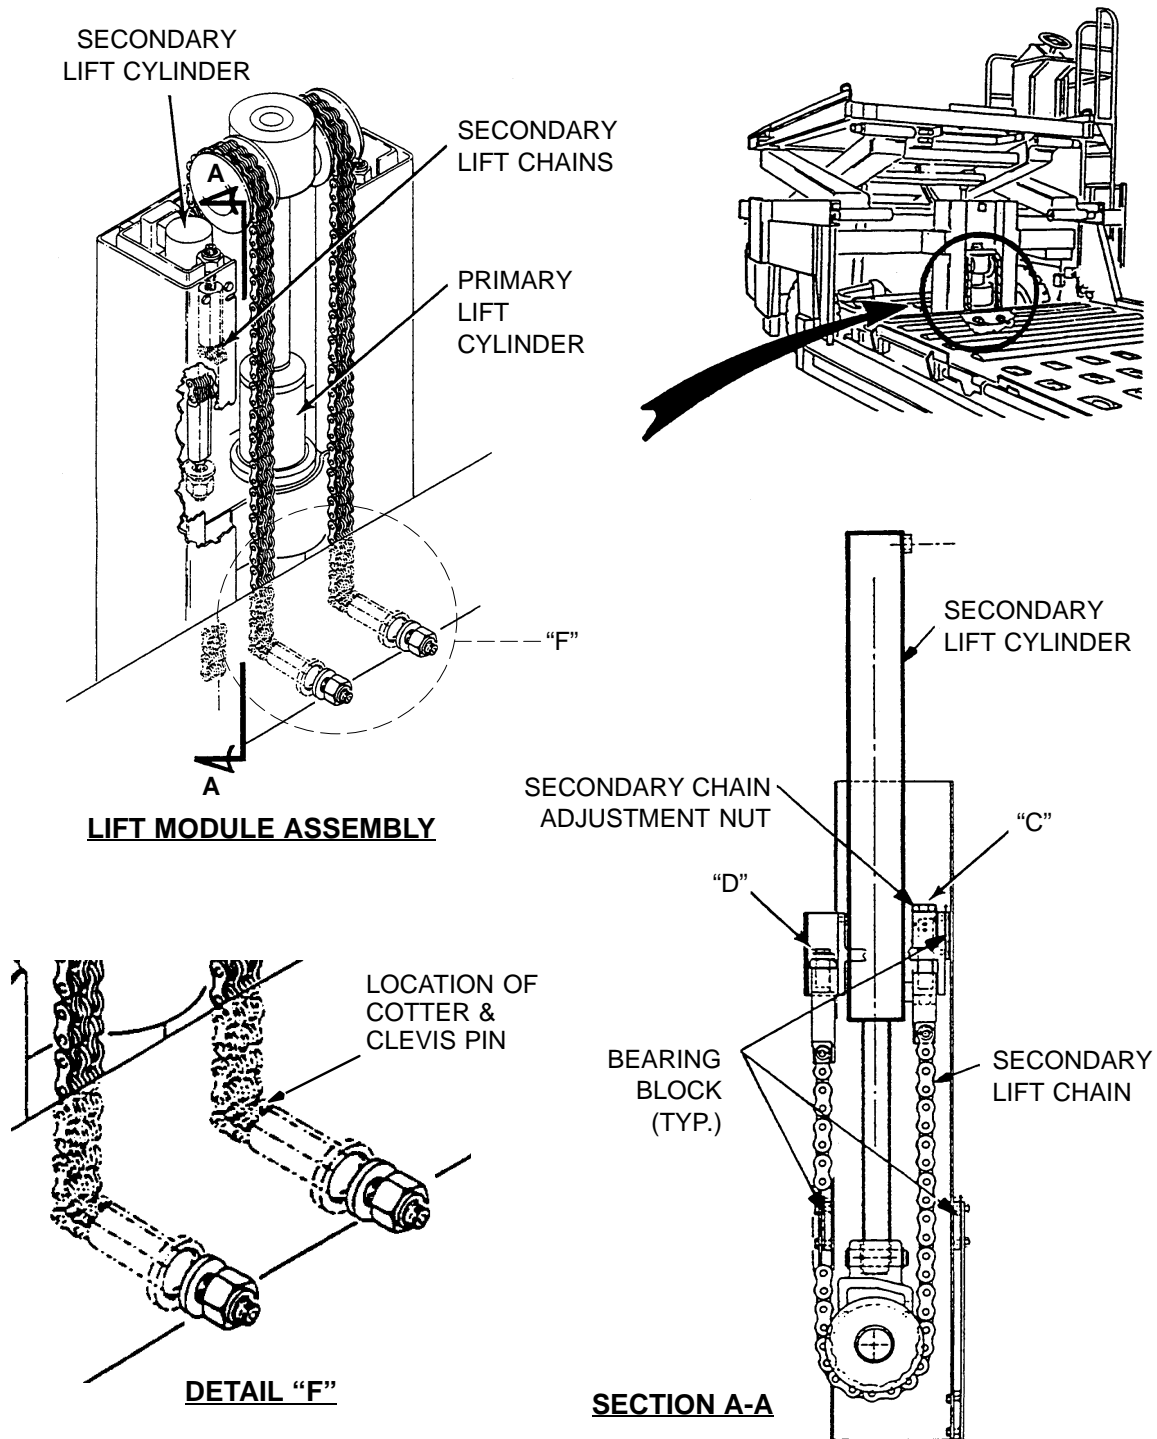
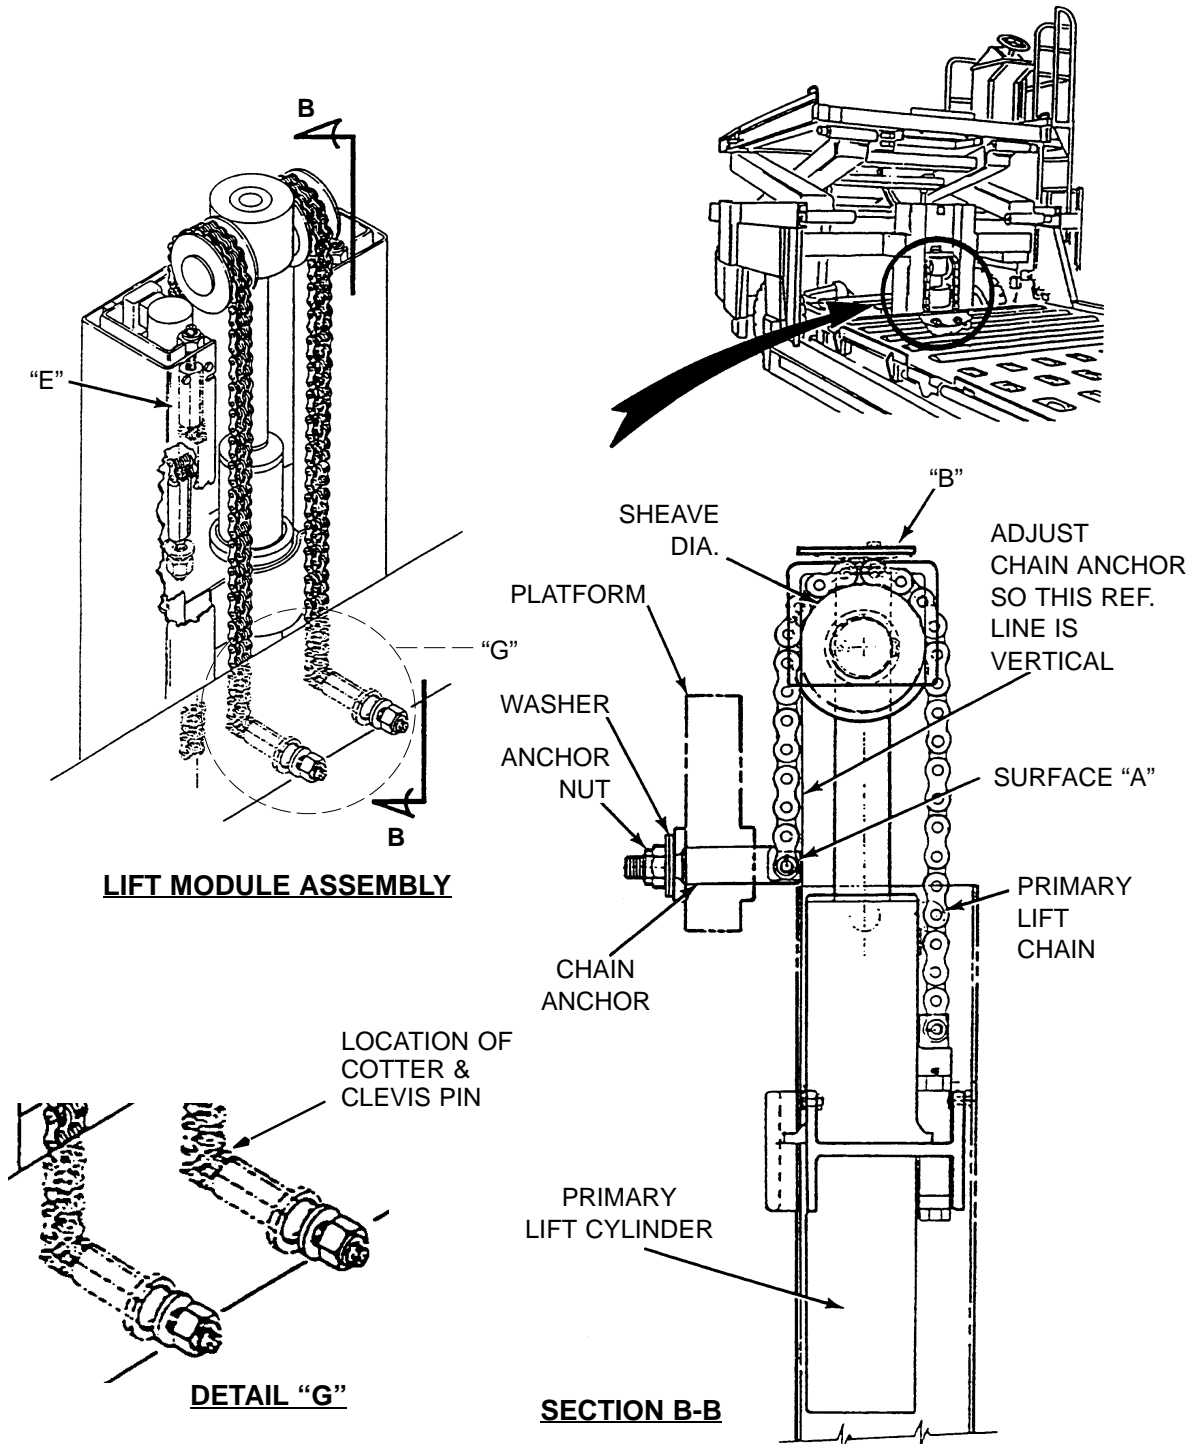

Figure 5
Figure 6
Check all clevis and cotter pins for wear and damage: four chains with two per chain (eight total). Replace clevis and/or cotter pins as needed (ref. Figure 5 and Figure 6).
- (3) Secondary Chain Adjustment (Only if Required) (Figure 5)
F. Primary Chain Anchor Adjustment (Only if Required) (Figure 6)
- (1) Inspect for chain wear prior to primary chain anchor adjustment and insure that secondary chains are inspected and adjusted correctly.
- (2) Raise platform and place maintenance stands in "SERVICE" position.
- (3) Lower platform onto maintenance stands, releasing tension from chain.
- (4) With power unit stopped or battery plug disconnected, loosen chain anchor nut approximately 20mm (3/4").
- (5) Protect the chain anchor threads and use a hammer to drive the chain anchor forward until the end of the chain anchor is in line with the surface of the chain sheave and the chain is vertical.
- (6) Inspect chain clevis and cotter pins for damage and replace if required.
- (7) With maintenance stands in place, use a level to check each lift cylinder housing (forward and rear) so they are PARALLEL with each other.
- (8) Tighten the chain anchor nut until it contacts the chain anchor washer. DO NOT TORQUE THE NUT. The nut prevents the chain anchor from moving forward in operation. Any torque on the nut will move the chain anchor out of adjustment.
- (9) Start power unit and raise the platform. Do not stow the safety stands at this time.
- (4) Remove the interface plate on top of the primary lift cylinder. See Figure 6 (B).
- (5) Use two forklifts to raise the platform up or reinstall the safety stands. Do not put forks under scissors. Lift platform at front only.
- (6) Remove hydraulic lines at lift cylinders and seal with steel caps or plugs.
- (7) Remove chain clevis pins at platform chain anchors.
- (8) Remove chain anchors.
- (9) Remove safety stands and lower rear platform fully to the frame bed.
- (10) Loosen secondary lift chain nuts in the front until the rear nuts are hand loose. See Figure 5 (C) and (D).
- (11) Use a 6mm Allen wrench to remove the two forward slider pads, rear pads and all shims.
(12) Remove four 8mm bolts. See Figure 6 (E).
(13) Strap the secondary lift chains to the cylinder.